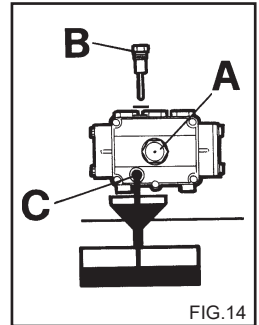

FIG.14
2) Unscrew the cap with the dipstick (fig. 14).